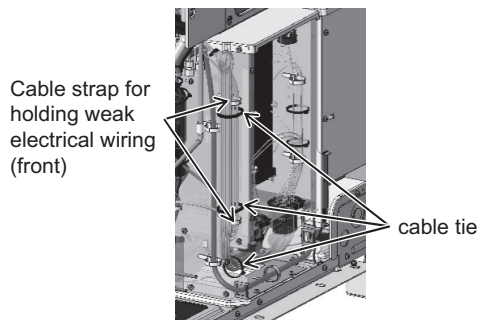

Figure 7
- (9) Cut the three cable ties and loosen the two cable straps holding the weak electrical wiring outside the main control box. (See Figure 7.)